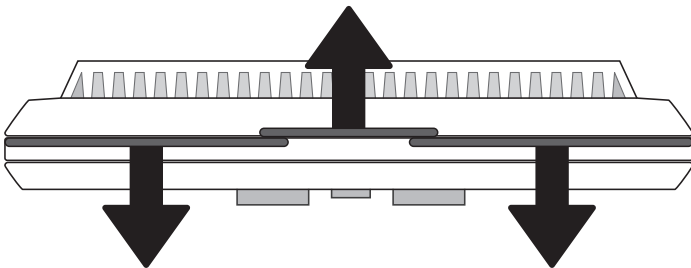

Figure 25.1
1. Separate the body of the thermostat from the mounting plate by gently pulling the two pieces apart (**Figure 25.1**)